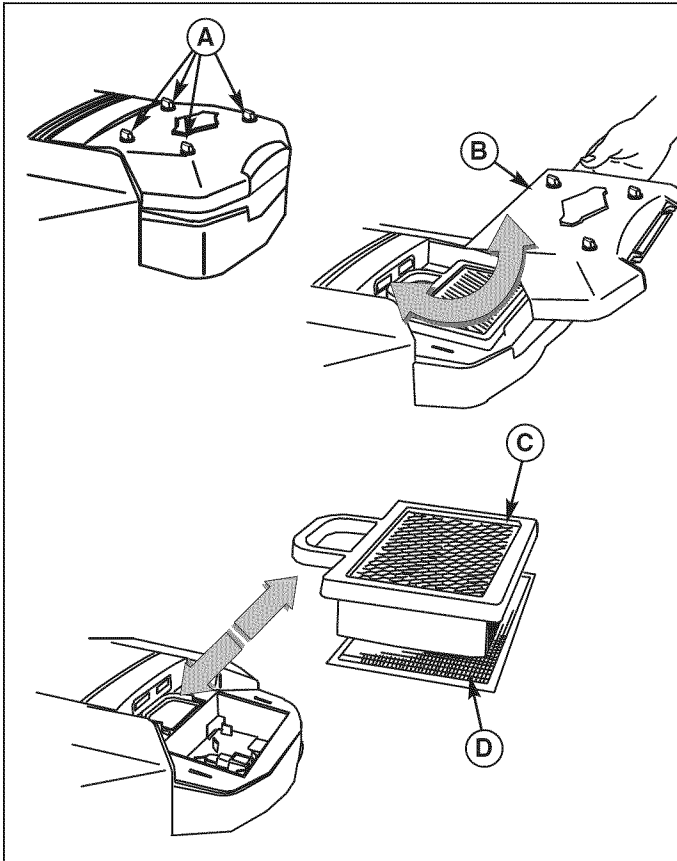

Figure 19. Air Filter Assembly
1. Unscrew the four knobs (A, Figure 19) by turning counterclockwise.